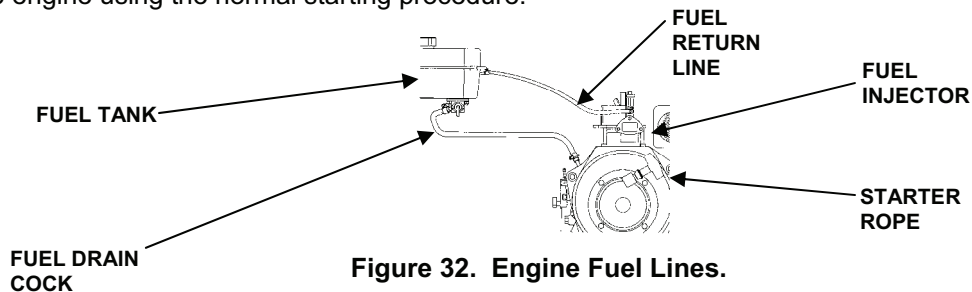

Figure 32. Engine Fuel Lines.
3. Remove the fuel return line from the fuel tank. See Figure 32.